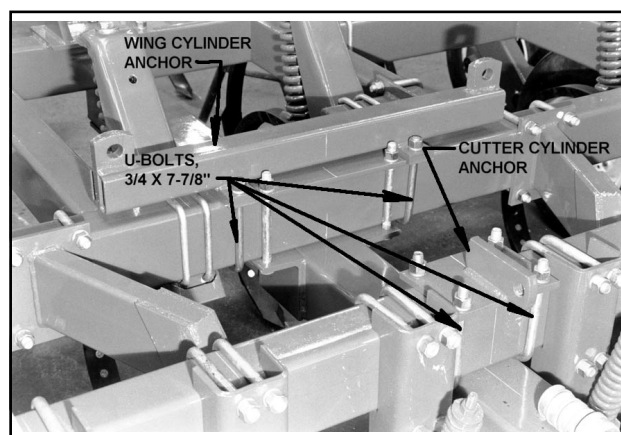

Figure 3-22 - Cylinder Anchors
3-14.1 Determine center of machine and attach wing cylinder anchor to front frame bar with two 3/4" x 7-7/8" U-bolts (**See Figure 3-22**).
3-15.1 Install cylinder anchor at center of cutter frame with two 3/4" x 7-7/8" U-bolts (2), lock washers, nuts (**See Figure 3-22**).